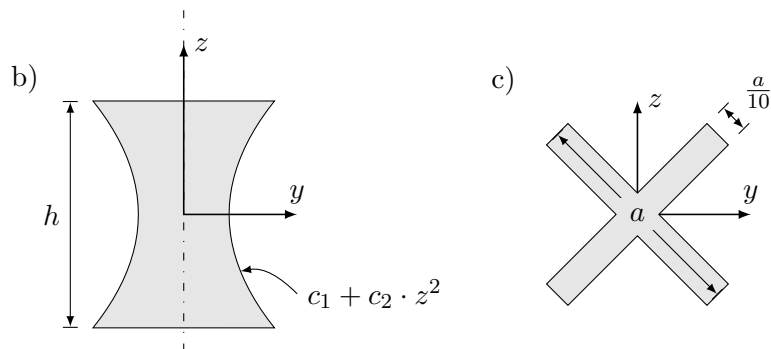

Figure 3: Cross-sections of more complicated beams.
- b) For the two cross-sections shown in fig. 3, find the second moments of area I_y and I_z .